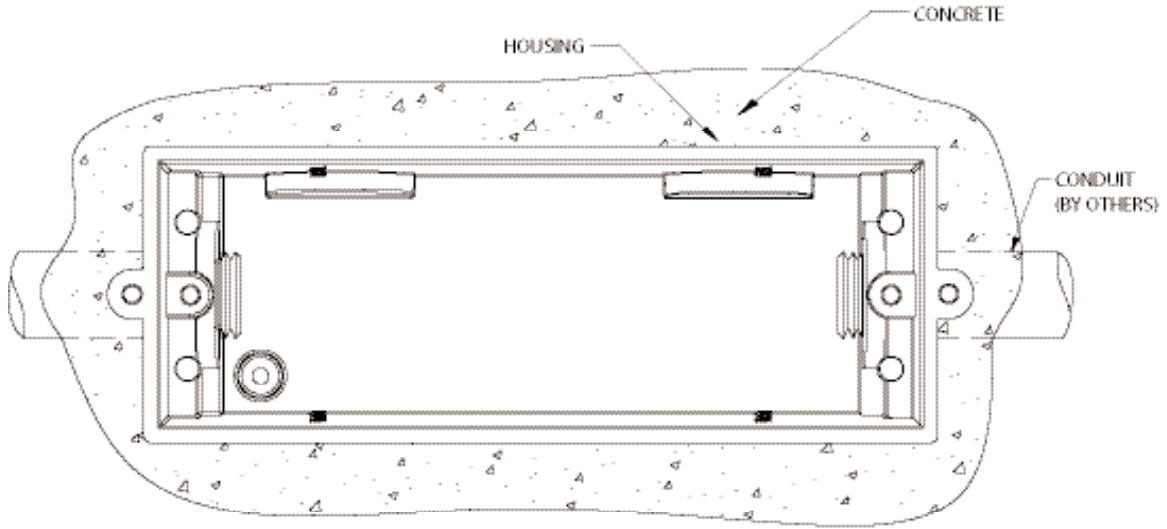

FIG. 2
- a. For concrete pour and masonry construction refer to Figure 2 and 3.
(For concrete installation see figure 2)